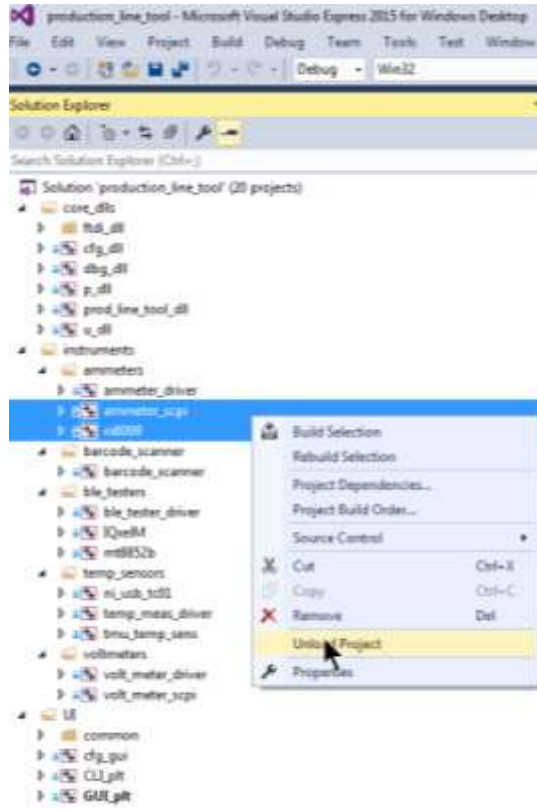

Figure 4: Unload Visual Studio Ammeter Projects
8. If current measurements are not required to be performed, then the instrument DLL projects should better be unloaded as they will require NI-VISA to be built. Right click the `ammeter_sspi` and `ni6009` projects and select 'Unload Project', as shown in Figure 4.